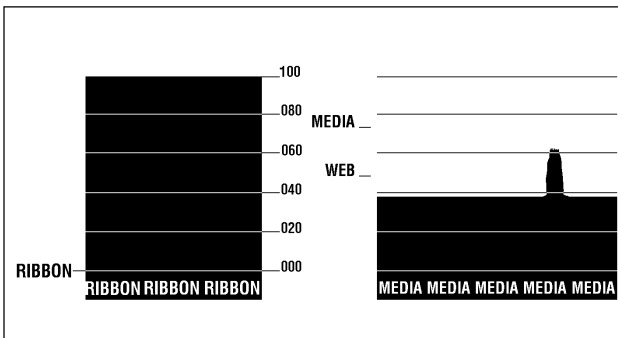

Figure 32
6. A profile of the media sensor settings (similar to the example in Figure 32) will print. Upon completion, the printer will save the new settings in memory and the printer is ready for normal operation.
* **	The media sensor calibrates and a media sensor profile prints (see Manual Calibration and Figure 32 on page 34).